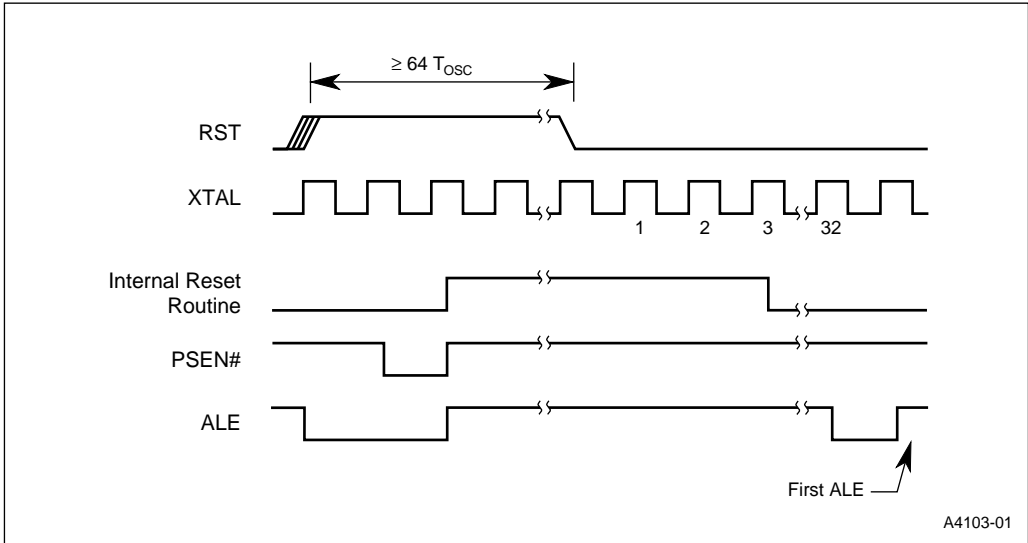

Figure 11-5. Reset Timing Sequence
The CPU checks for the presence of the combined reset signal every  $2T_{OSC}$ . When a reset is detected, the CPU responds by triggering the internal reset routine. The reset routine loads the SFRs with their reset values (see Table 3-5 on page 3-17). Reset does not affect on-chip data RAM or the register file. However, following a cold start reset, these are indeterminate because  $V_{CC}$  has fallen too low or has been off. Following a synchronizing operation and the configuration fetch, the CPU vectors to address FF:0000. Figure 11-5 shows the reset timing sequence.
1. Assert RST to initiate a device reset. See section 11.4.1, “Externally Initiated Resets,” and the reset waveforms in Figure 11-5 on page 11-8.